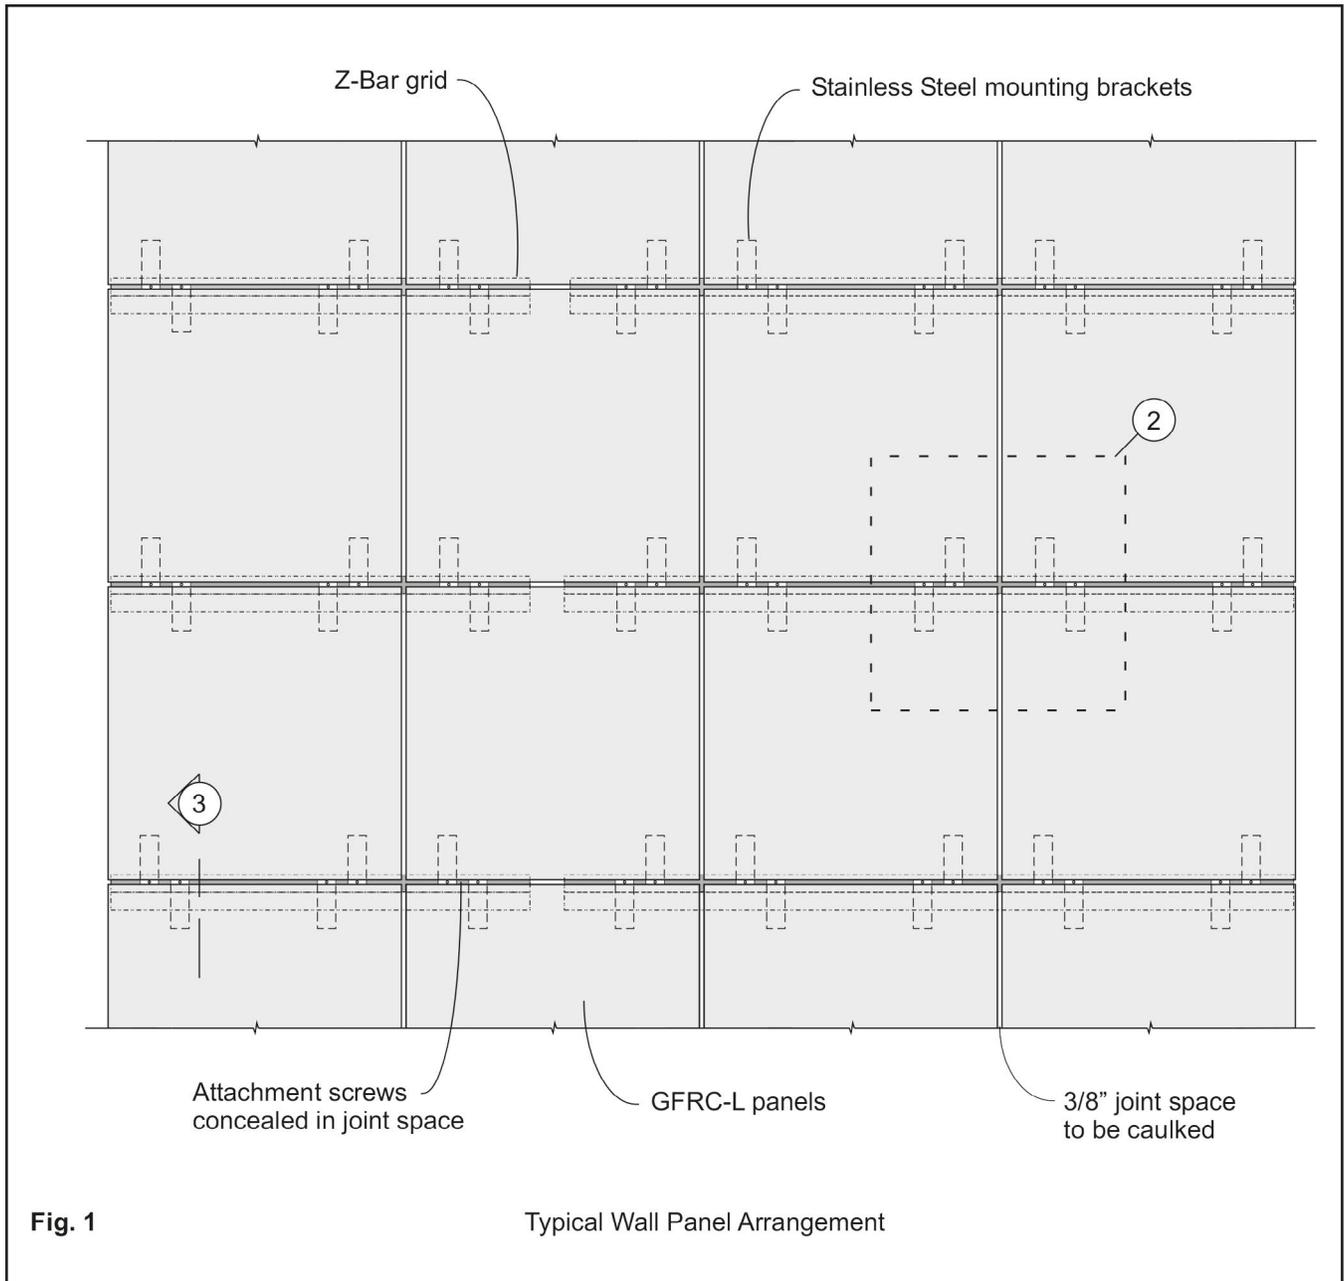

Fig. 1
1. Formglas® GFRC-L parts and panels are installed with concealed fasteners wherever possible. Typically, this is accomplished by using attachment points located between the joint spaces between the GFRC-L parts which will later be filled with a joint sealant. For example, Fig.1 illustrates a simple wall panel arrangement where the attachment points are in the horizontal joint spaces between panels. The GFRC-L panels are supplied with factory attached, heavy gauge, stainless steel mounting brackets. In this example, the back surfaces of the wall panels have 2 upper and 2 lower mounting brackets attached to them that project 3/8" (10mm) beyond the top and bottom edges of the panels. The panel arrangement was pre-designed to have a 3/8" (10 mm)
Fig. 2 below is an enlargement of the area marked with dashed lines in Fig. 1 that is identified as item (2). Fig. 2 illustrates an intersection of 4 panels. Note that the upper and lower panel mounting brackets are staggered so that the brackets attached to the upper panels are spaced horizontally apart from the brackets on the lower panels so there is no interference installing subsequent rows of panels.
Fig. 4 is a vertical cross sectional detail of the panels indicated as item (3) of Fig. 1. This illustrates an upper and lower portion of the GFRc-L panels, mounting brackets, Z-Bar and substrate. Both the upper portion of the lower panel and the lower portion of the upper panel are secured to the same horizontal Z-Bar through the same joint space. After the installation is complete a flexible backer rod is placed into the joint space and the joint sealed with an appropriate caulk. See Joint Treatment on page 5 for more details.